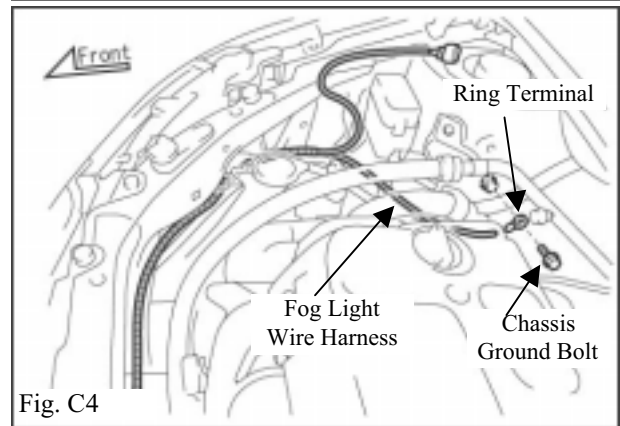

Fig. C4
- ➔ 6. Route the fog light wire harness along main vehicle harness to chassis ground bolt as shown. (Fig. C4)
- ➔ 7. Remove and insert the chassis ground bolt through the ring terminal of fog light wire harness. (Fig. C4)